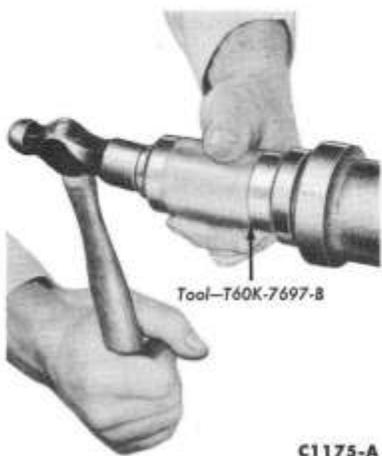

FIG. 12—Bushing Installation
23. Install the extension housing bushing (Fig. 12).